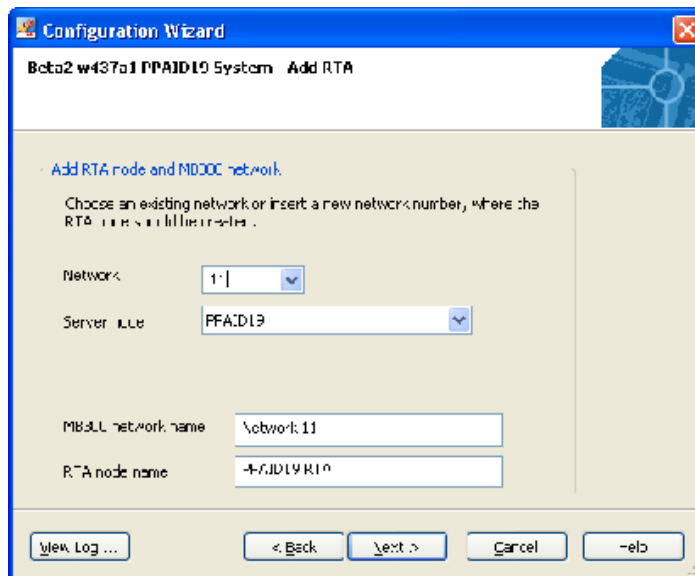

Figure 29. Add RTA Dialog Box
5. The Add RTA dialog box shown in Figure 29 appears. Select the primary network number from the **Network** drop-down list box, or enter it manually.